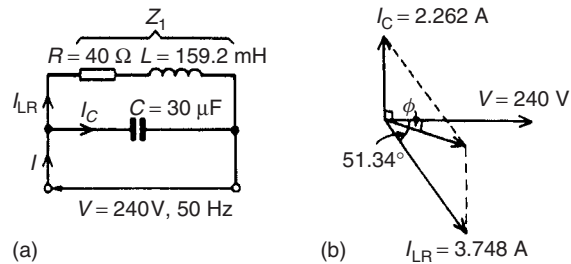

Figure 16.6
The circuit diagram is shown in Fig. 16.6(a).
(see phasor diagram in Fig. 16.6(b))
(see phasor diagram of Fig. 16.6(b)).
- (c) The supply current I is the phasor sum of I_{LR} and I_C . This may be obtained by drawing the phasor diagram to scale and measuring the current I and its phase angle relative to V . (Current I will always be the diagonal of the parallelogram formed as in Fig. 16.6(b)).